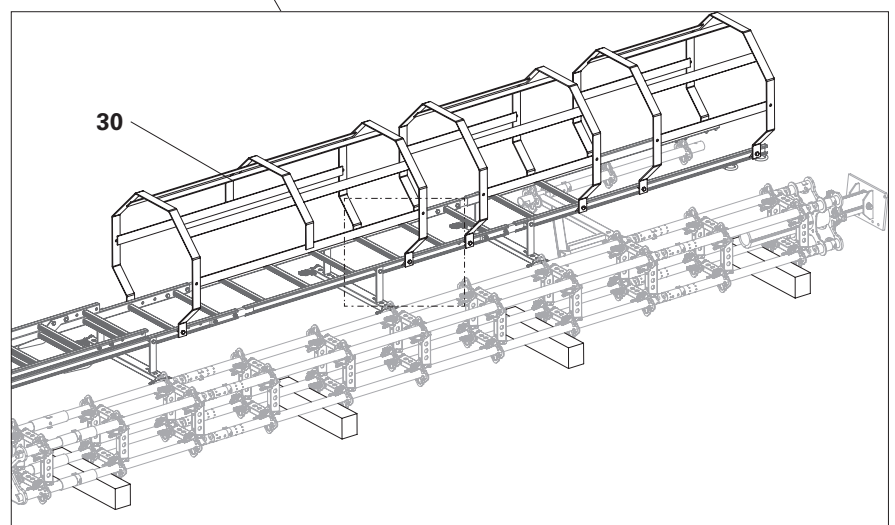

Fig. A6.09
8. Attach the ladder cage (**30**) to the ladder with the clamping plates. (Fig. A6.09 and A6.09a)